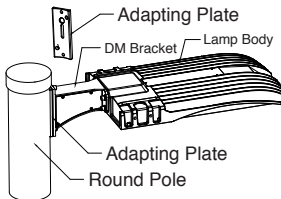

Figure 3-3
3. Note: Round pole should be with adapting plate. (Figure 3-3)